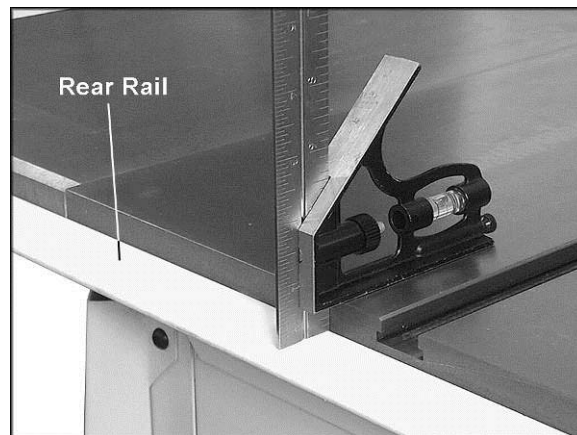

Figure 4
4. The rear rail *must* be parallel to the table top to ensure proper fence operation. Measure the distance from the rail to the table surface at several points along the table. A sliding combination square is handy for this, as shown in Figure 4. All measurements should be the same. There is slight adjustment in the rail holes to allow for achieving parallelism with the table surface.